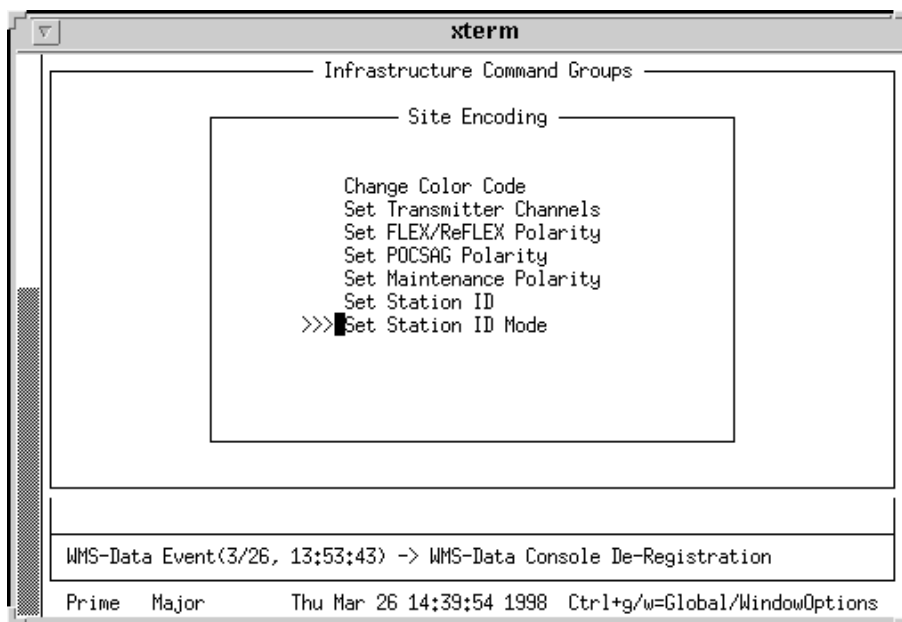

Figure 7-17: Infrastructure Command Groups—Set Station Mode ID
1. From the Site Encoding screen, use the <tab> to position the cursor to the left of the listing Set Station ID Mode and press: <Return> (see Figure 7-17).